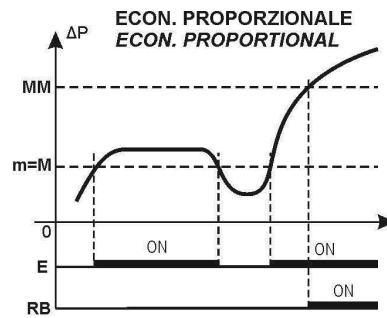

Fig. 3
-when  $\Delta P < 70\text{mmH}_2\text{O}$  there is no cleanings (led E=OFF-fig.3)